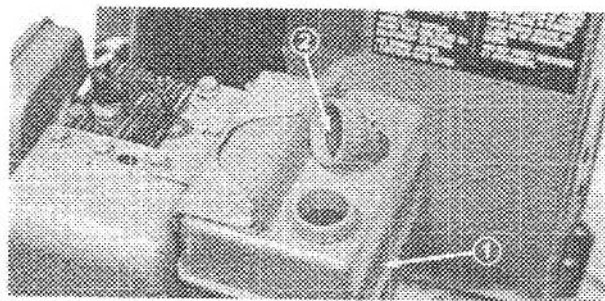

Figure 15
1. Clean area around the fuel tank cap. Remove cap from fuel tank and fill tank to within 1/2 inch (13 mm) from the top with unleaded regular gasoline. Reinstall fuel tank cap (Fig. 15).